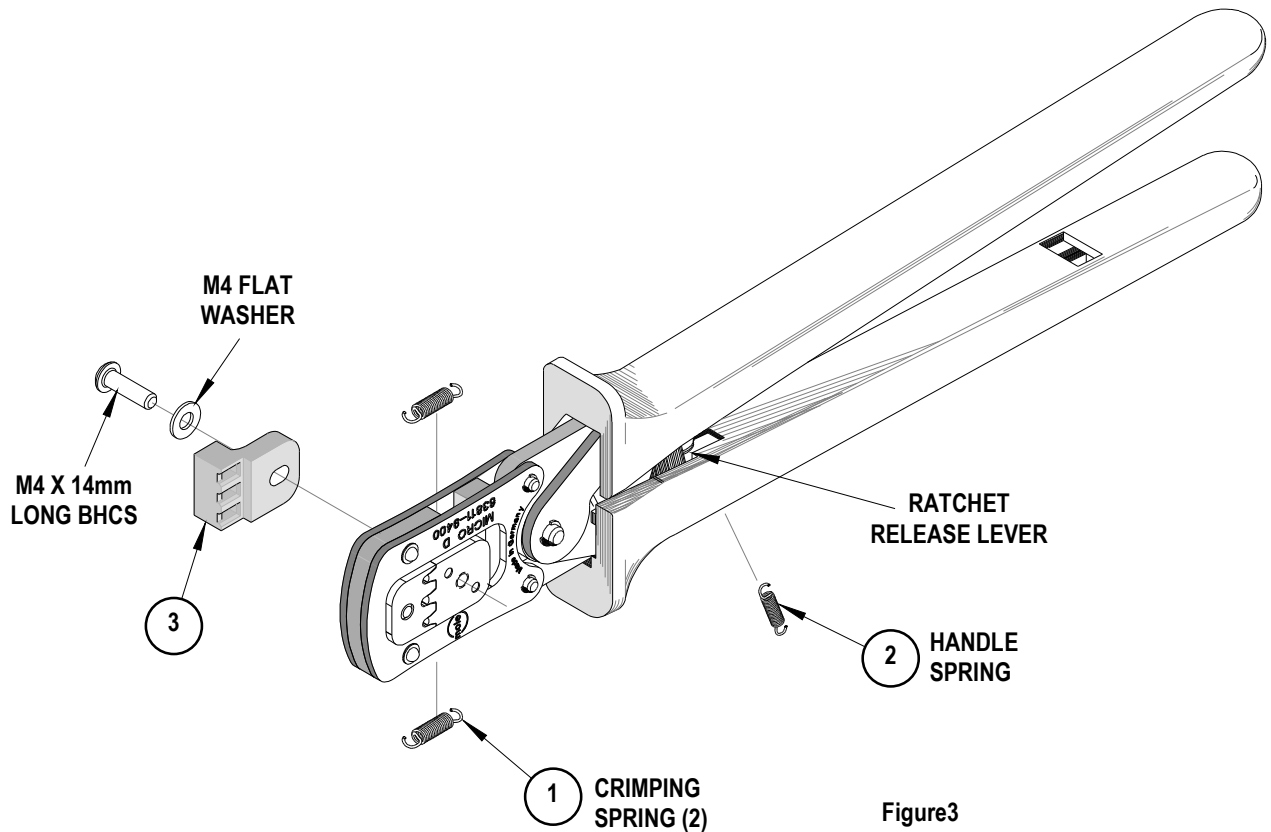

Figure3
**Miscrimps or Jams (See Figure 3)**